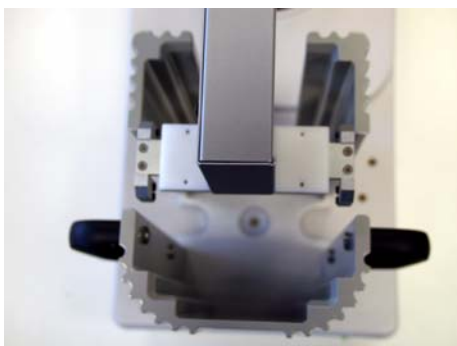

Figure 34 Gripper arm centralized in the rack
- 4 Click **Plus 10** and/or **Plus** to move the arm clockwise, or **Minus 10** and/or **Minus** to move the arm counter-clockwise until the gripper is centralized in the rack, as in Figure 34.